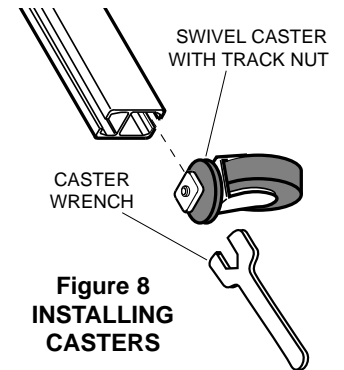

Figure 8
9. Tip assembled frame on its side and install casters (Fig. 8). Secure with wrench supplied.